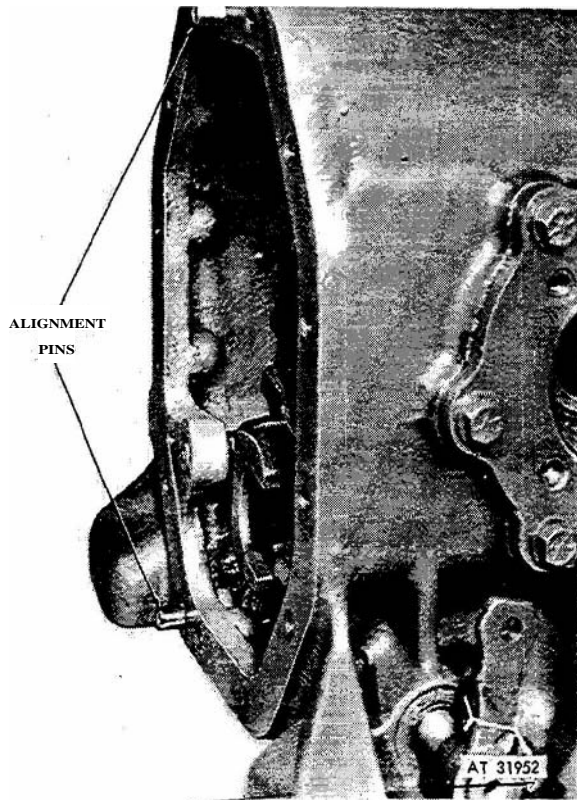

Figure 3-156. Location of housing alignment pins.
(18) Position gasket (29, fig 3-141) on housing (15). Align pins (28) with holes in housing (11, fig 3-133), as shown in figure 3-156, and fasten housings together using screw (13, fig 3-133) and washer (12).